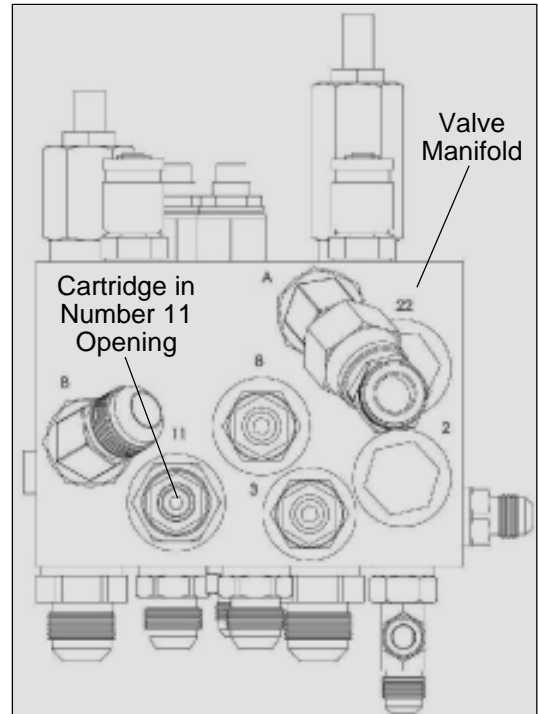

Figure 1 — Valve Manifold
3. Locate the grapple hydraulic manifold on the grapple frame (refer to Figure 1).